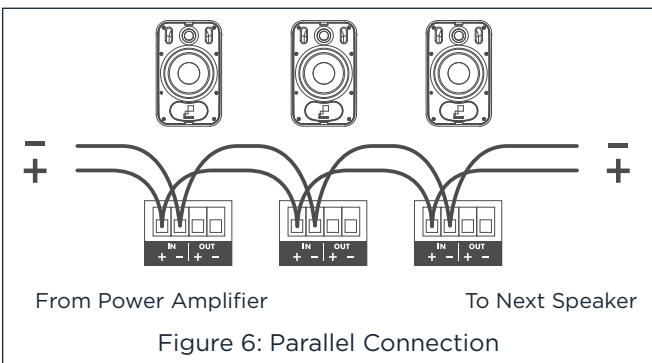

Figure 6: Parallel Connection
- Connect the wires from your amplifier to the input connector. Strip approximately 0.1875" (5mm) of the insulation off each wire. Insert the wire into the correct square opening on the connector. Tighten the corresponding screw to secure the wire. When using multiple speakers you can connect the speakers either in parallel or in the loop through method as shown (see Figure 6 and 7).